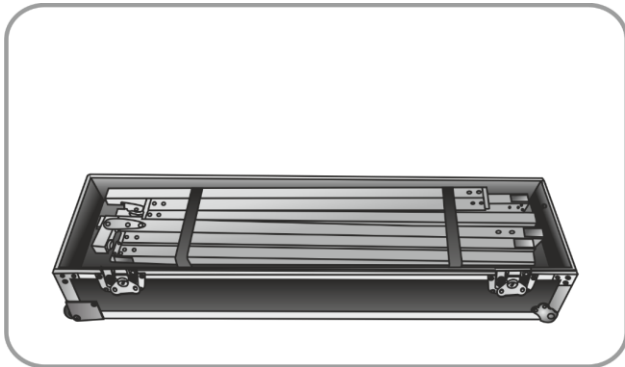
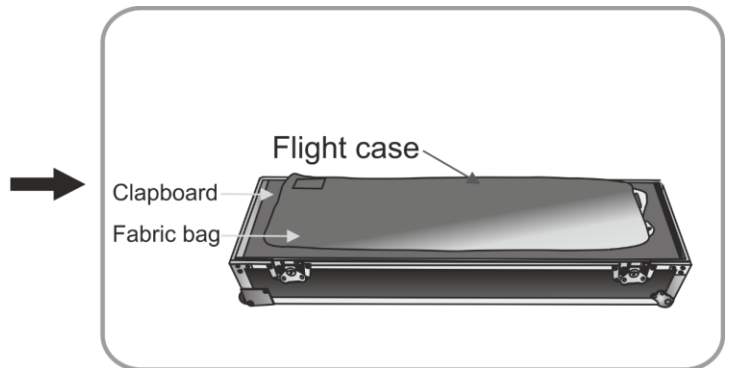

Fig. 20
Fig. 21
- 06) Put the legs and the main frame in the flight case and fasten them (Fig. 20). Put the accessory bag inside. Insert the clapboard and put the fabric bags on it (Fig. 21).